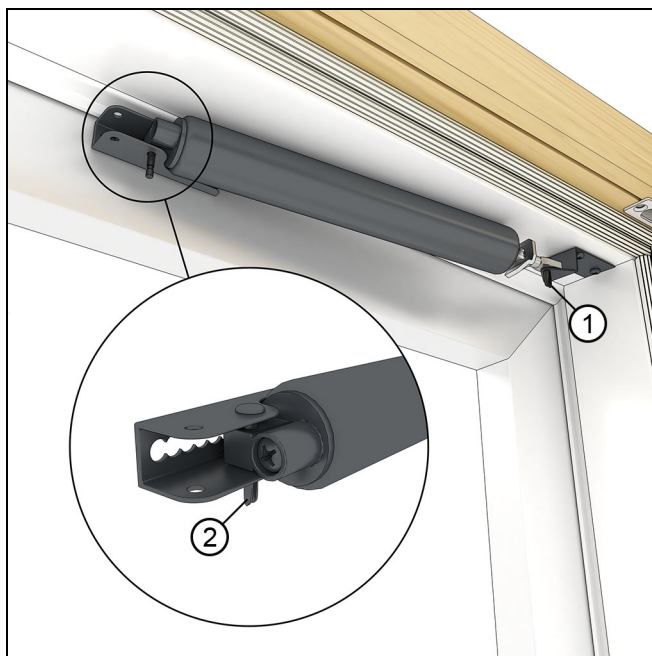

Figure 17 NEED NEW BRACKET
5. Attach the closer to the head jamb bracket with the split connecting pin. Connect the panel bracket to the closer with the door bracket connecting pin. See Figure 17.